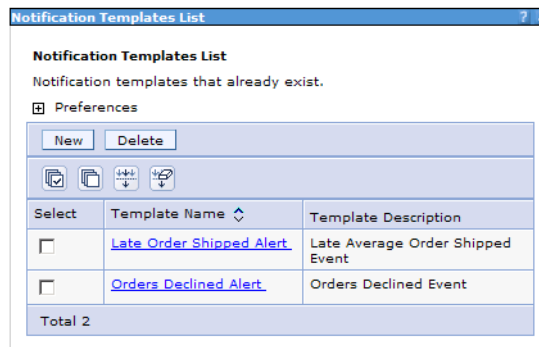

Figure 12-18 Alert notifications
- ▶ The list of notification templates is shown in Figure 12-18